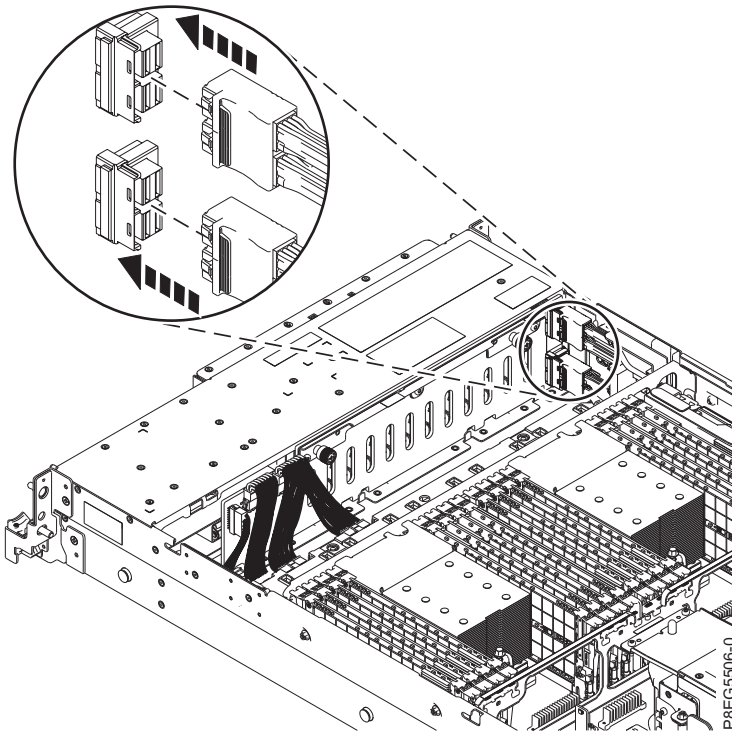

Figure 15. Reconnecting the front SAS cables to the disk drive backplane
- Reconnect the front SAS cables to the connector ports on the disk drive backplane, as shown in Figure 15. Push the cable connector in until the connector latch clicks.